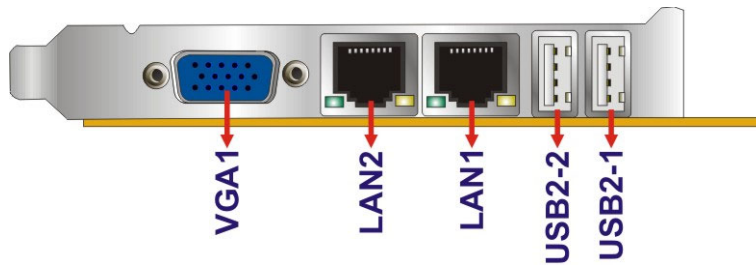

Figure 3-32: External Peripheral Interface Connector
- CN Location:** See **Figure 3-32**
CN Location: See **Figure 3-32**